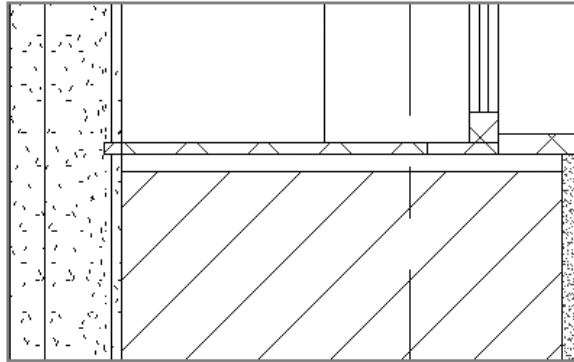

FIGURE 11.11 The completed sketch
11. Click the green check to complete the sketch. The finished sill looks like Figure 11.11.